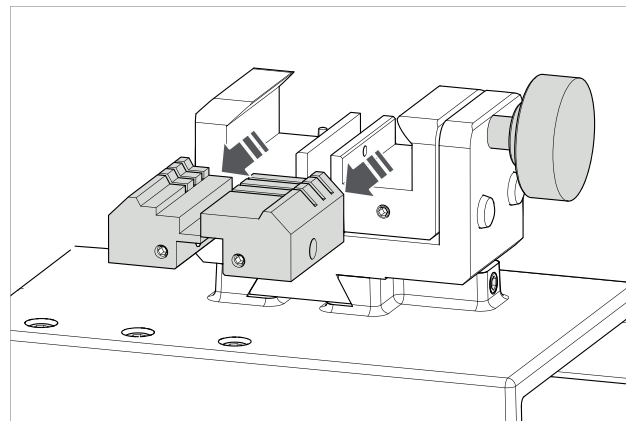

Fig. 31
- 3) Use your fingers to pull the jaw to be removed out towards the operator (Fig. 31).